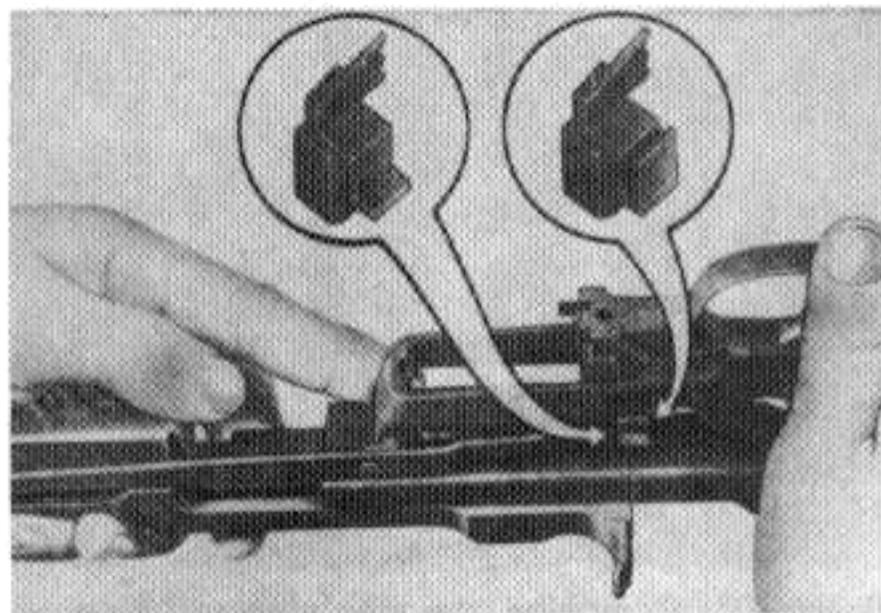
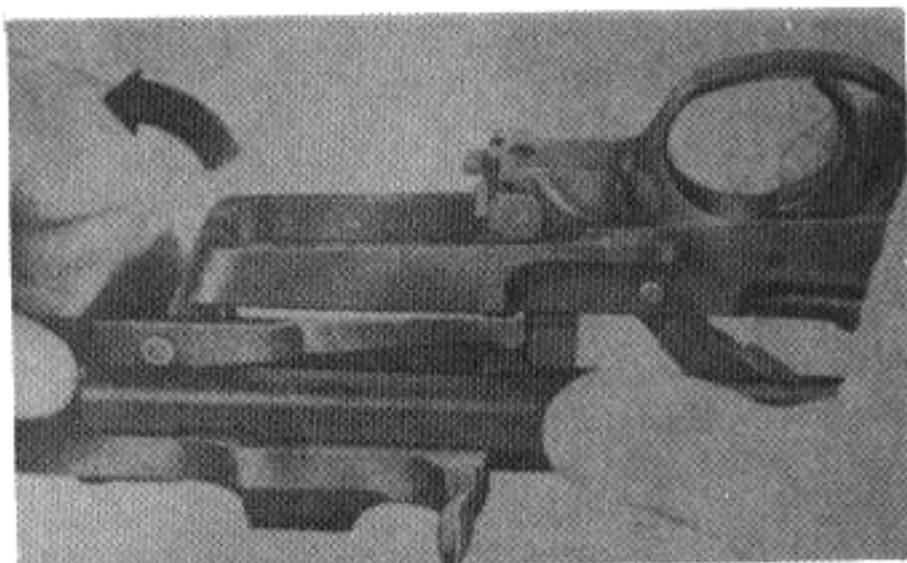

Figure 9. Removing the disconnecter lever assembly.
Figure 10. Removing the disconnecter lever assembly.
h. To remove the disconnecter lever assembly, push on the trigger housing and selector pin, unseating the disconnecter lever (Fig. 9). Remove the disconnecter lever assembly. If the disconnecter on your weapon has a slotted groove instead of a shoulder, disengage the rear end of the disconnecter lever before attempting to remove the disconnecter lever assembly. To do this, unseat the disconnecter lever assembly and then rotate the crank forward, disengaging the rear end of the disconnecter lever from the slotted groove of the disconnecter (Fig. 10). Now, remove the disconnecter lever assembly.